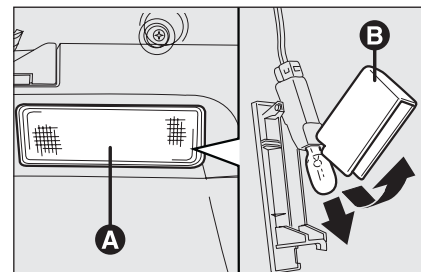

fig. 45
- ☐ remove the light **A**-fig. 45 levering in the point shown by the arrow.